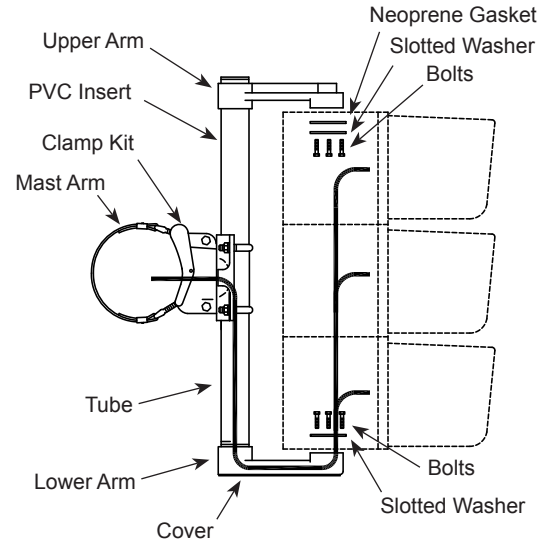

Figure 4
15. Position the lower arm centered on the signal with the tube channel in the back. Using the hardware kit(s) without the neoprene gasket(s), mount the arm to bottom of the signal(s). Torque the bolts to 6 ft-lb. DO NOT OVERTIGHTEN. (Figure 4)
17. Slide the upper arm(s) down over the top of the tube and secure to the signal(s) using the hardware kit(s) with the rubber gasket(s). (Figure 4)
21. Route the wiring through the tube, through the lower arm, and to the signal connections. (Figure 4)